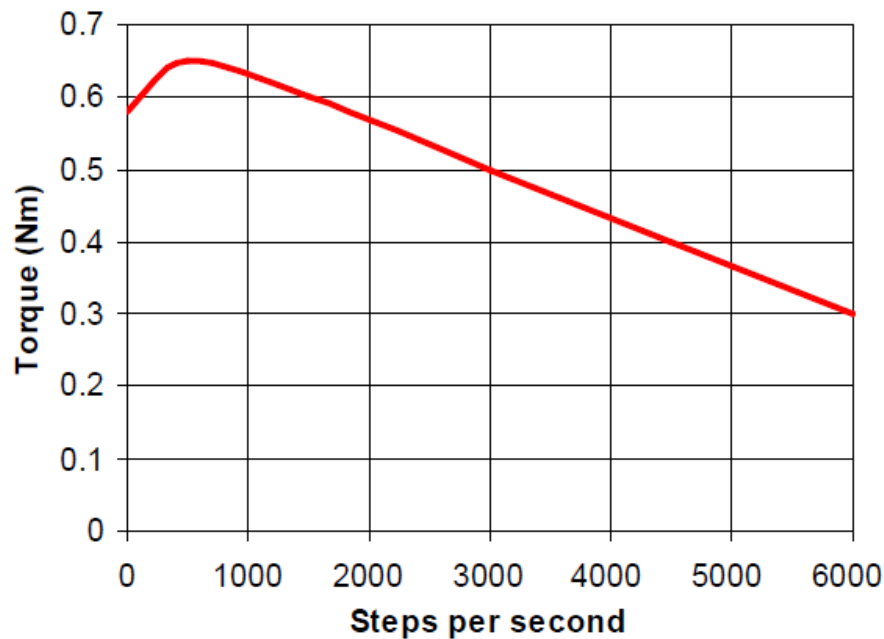

Figure Q6
6. Stepper motors are well-known for their excellent open-loop performance to control systems such as robotics, antennas, telescopes, and some toys. Stepper motors cannot run at high speeds but have a high holding torque which is normally defined by its torque-speed characteristic performance curve as the one shown in Fig. Q6. A ball-screw feed drive system of a 3D printer is driven by a stepper motor through a gearbox with a reduction ratio of 8 and the ball-screw lead is 2 mm. The desired maximum speed of the feed drive system is 3 mm/s and the equivalent moment of inertia with reference to the stepper motor shaft is 5×10^{-3} kg.m². The viscous drag torque of the feed drive system can be modelled as a proportional drag torque of 0.0002 Nm/RPM of the motor shaft speed. Assume that the motor with a torque-speed characteristic given in Fig. Q6 is selected for this feed drive system.